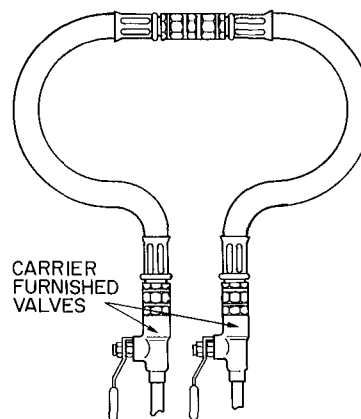

Fig. 2 — Temporary Connection for System Flushing
5. Clean and flush system. Flush hydronic loop with clean water thoroughly prior to start-up. Do not use cleaning chemicals, to avoid possible hose damage and the necessity to bypass screening. Do not damage hose by exceeding bend radius during flushing. If one hose is not long enough to short circuit the supply and return, use both hoses with a Flare x Flare (J.I.C. 37°) adapter to connect hoses. See Fig. 2.